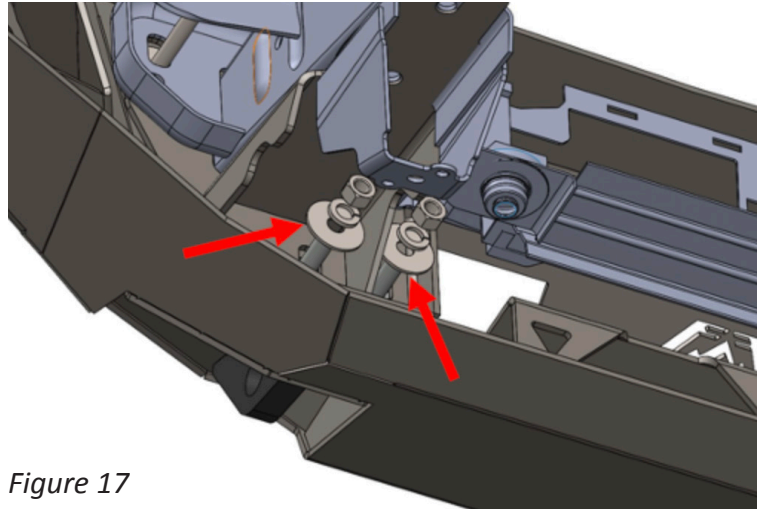

Figure 17
6. Using a 3/4" socket wrench, install the four supplied 1/2" USS flat washer, lock washers, and nuts to the previously installed bolt strips and the bottom of the bumper. (Figure 17)